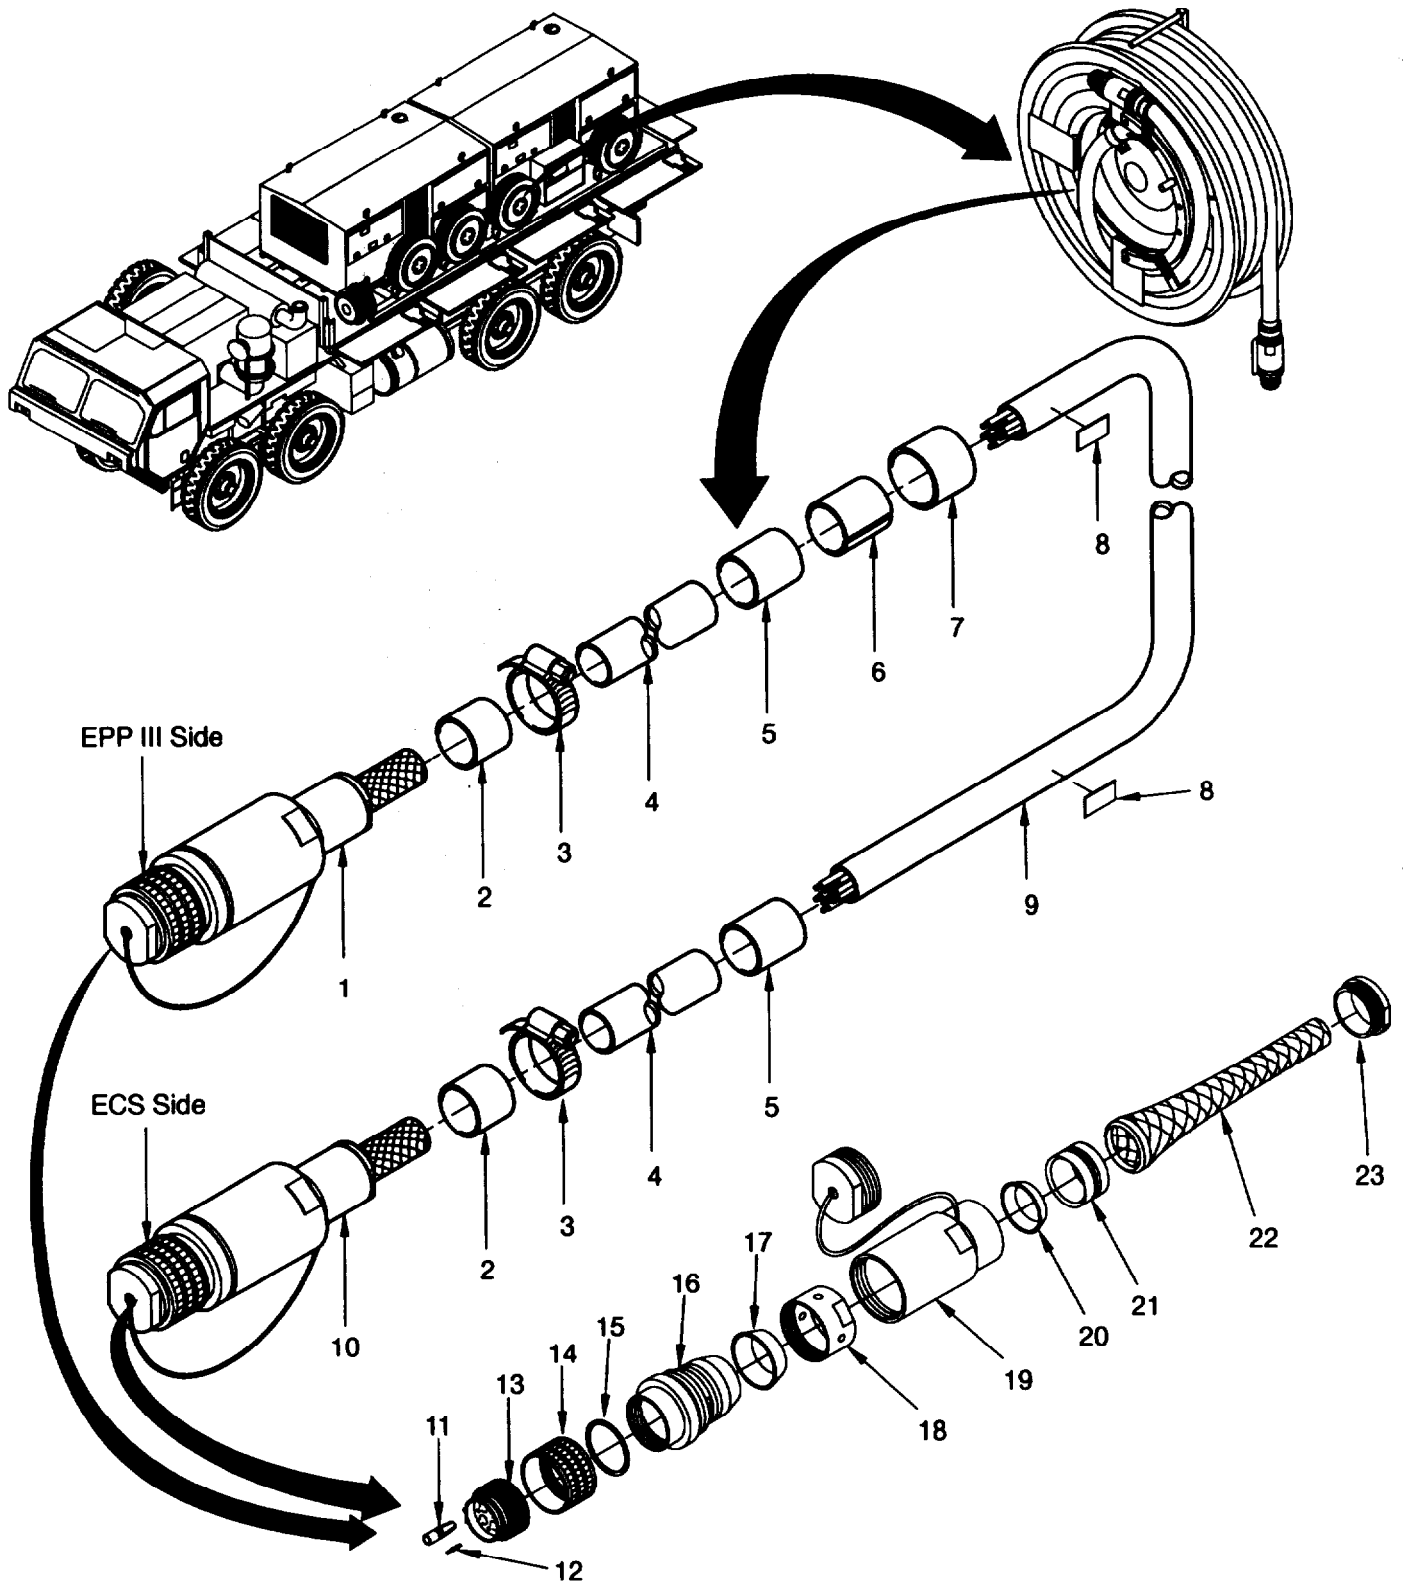

Figure 5-9 Power Cable (ECS Power Cable Set).
- a. Unscrew plugs (1, 10, figure 5-9) on EPP III and ECS ends.